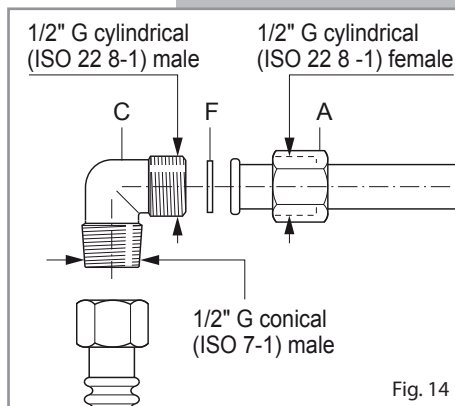
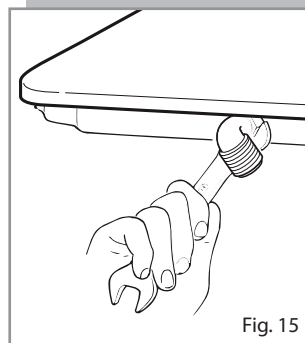

Fig. 14
Fig. 15
- The gas inlet union can be turned in the direction required after the elbow fitting "C" and nut "A" connection (figure 14) has been slackened (Fig. 15).
- The gasket "F" (fig. 14) guarantees the seal of the gas connection. It is recommended that it be replaced whenever it shows even the slightest deformation or imperfection.